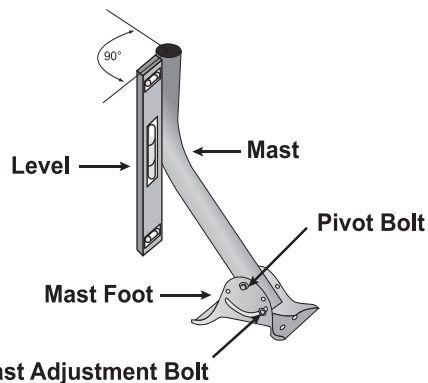

Figure 1. DISH 500+ and DISH 1000+ Antenna System Overview
This antenna assembly includes enhanced peaking controls for the azimuth and elevation settings that provide the ability to more easily obtain an optimal peaking of the antenna system. Refer to Figure 1 on page 2 for more details on the enhanced peaking controls.
- 4. Align mast vertically.** Align the top part of the mast so that it is absolutely vertical. If the top part of the mast is off vertical by only a few degrees, it will be difficult or maybe even impossible for you to find the satellites. Take at least two readings with a level, on the upper mast, that are 90 degrees apart from one another (see Figure 1).
- 5. Assemble the antenna assembly without LNBF.** Assemble the antenna assembly as shown in Figure 1, except do not attach the LNBF assembly at this time.
Use the steps below while referring to Figure 1, page 2 for this installation.
- 1. Mount LNBF onto LNBF support.** Mount the LNBF assembly on the LNBF support as shown on Figure 1 (see page 2).